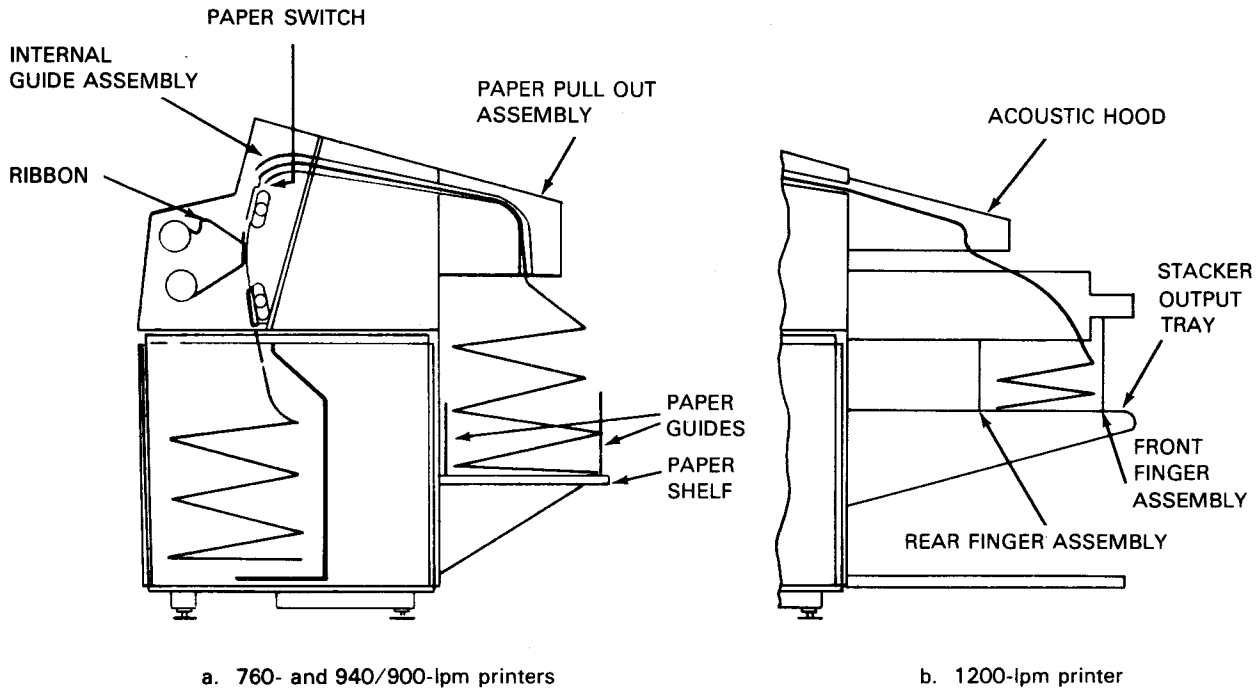

Figure 4-6. Form Feed Configuration
18. Feed form through internal guide assembly (Figure 4-6). On the 760- or 940/900-lpm printer, pass form through rear exit slot in hood and fold between rear and front paper guides to paper shelf (Figure 4-6). On the 1200-lpm printer, perform the following steps:
13. Feed form through internal guide assembly (Figure 4-6). On the 760- or 940/900-lpm printer, pass form through rear exit slot in hood and fold between rear and front paper guides to paper shelf (Figure 4-6). On the 1200-lpm printer, perform the following steps: ←
- 22. Feed form through internal guide assembly (Figure 4-6). On the 760- or 940/900-lpm printer, pass form through rear exit slot in hood and fold between rear and front paper guides to paper shelf (Figure 4-6). Perform the following steps on the 1200-lpm printer: